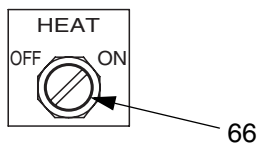

FIG. 6
1. Turn the HEAT switch (66) OFF, then ON. FIG. 6.